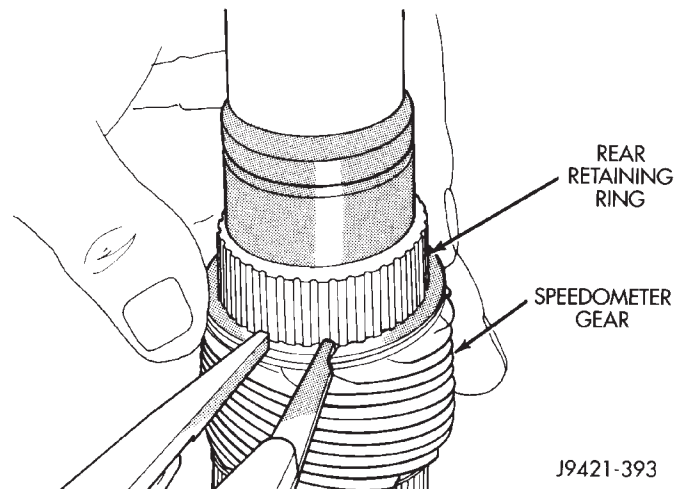

Fig. 30 Speedometer Gear Rear Snap Ring Removal
(16) Remove speedometer gear rear retaining ring (Fig. 30).